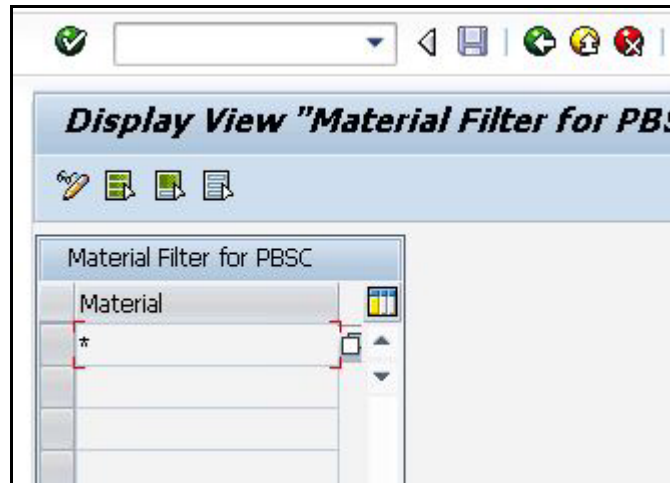

Figure 4-55: Setting Material Filters
- 4 Click **New Entries**. Enter values to filter what materials should be sent to the queue. In Figure 4-55, a wildcard is used so that all materials are added to the PBSC queue.